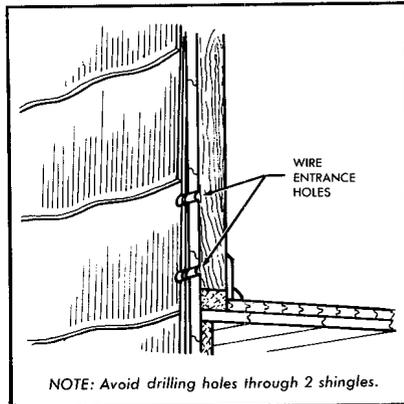

FIGURE 3. Entrance Through Composition Shingles
- d. Locate hole as shown in Figure 3 to avoid drilling through two shingles.